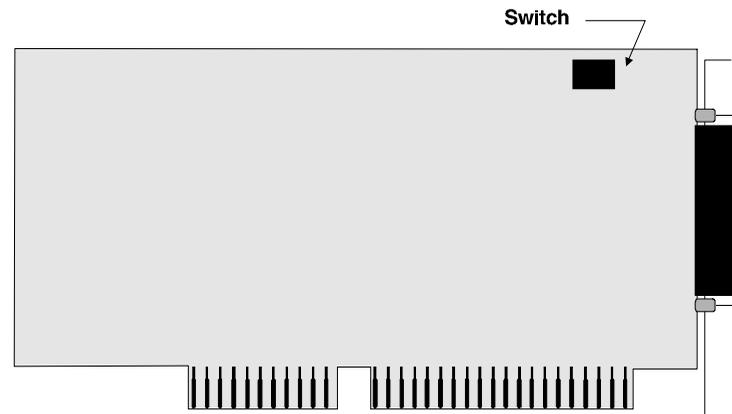

Figure 2. Xem ISA adapter
1. Set the I/O port address of the adapter to one of the following addresses using the DIP switch at the location indicated in Figure 2: